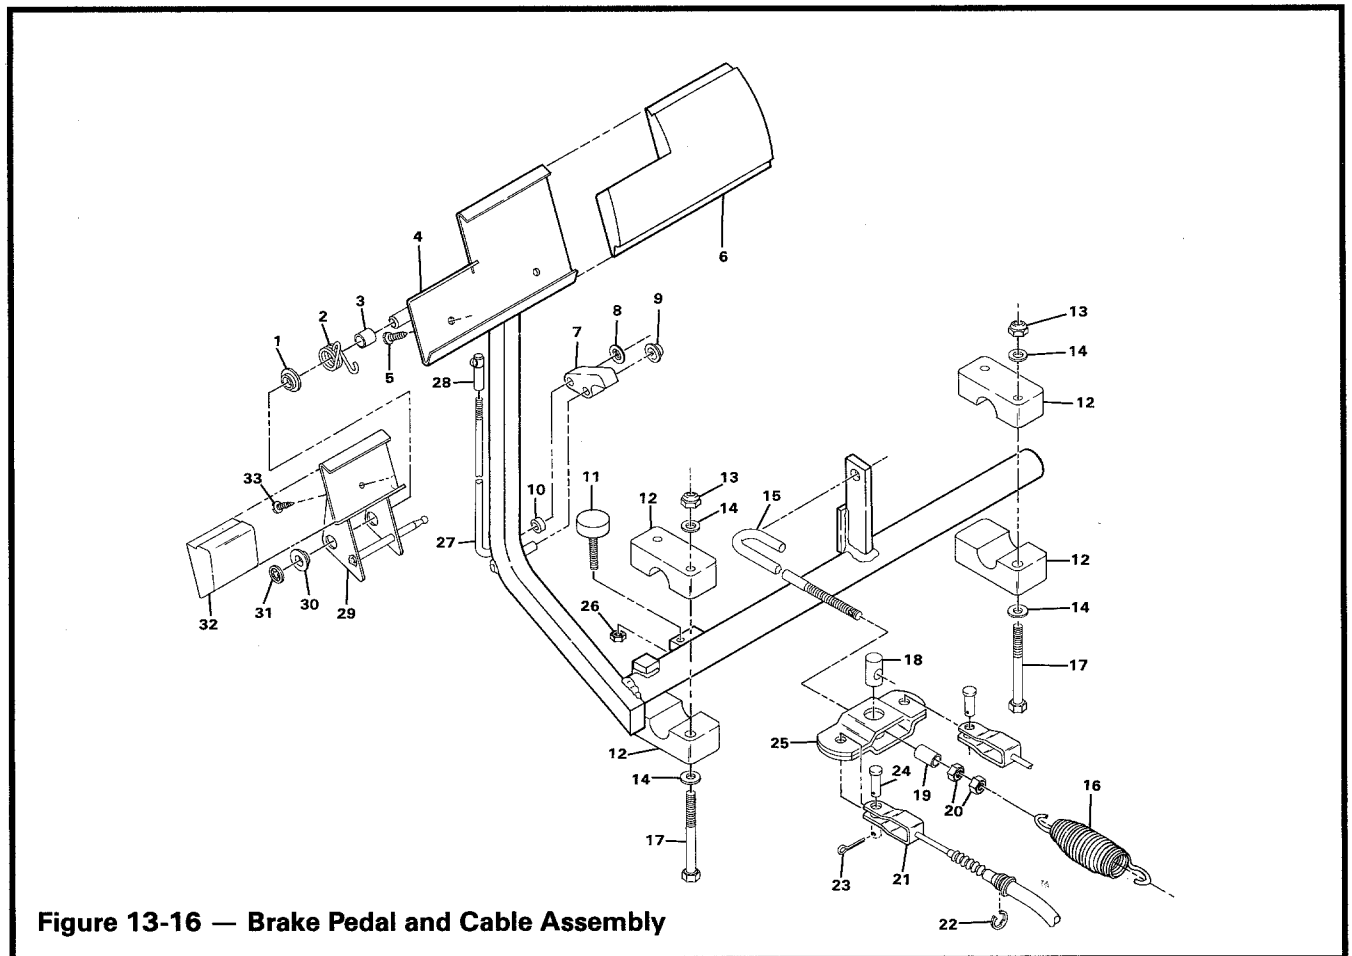

Figure 13-16 — Brake Pedal and Cable Assembly
1. Remove the pedal return spring (16) from the equalizer rod (Figure 13-16).
2. Loosen brake equalizer rod jam nuts (20) and unhook rod (15) from pedal shaft.
3. Remove nut (26) and brake stop (11).
4. Remove nuts (13), flatwashers (14), bolts (17), and bearing blocks (12).
6. To remove park brake pawl (7), remove push-on retainer nuts (8 and 9).